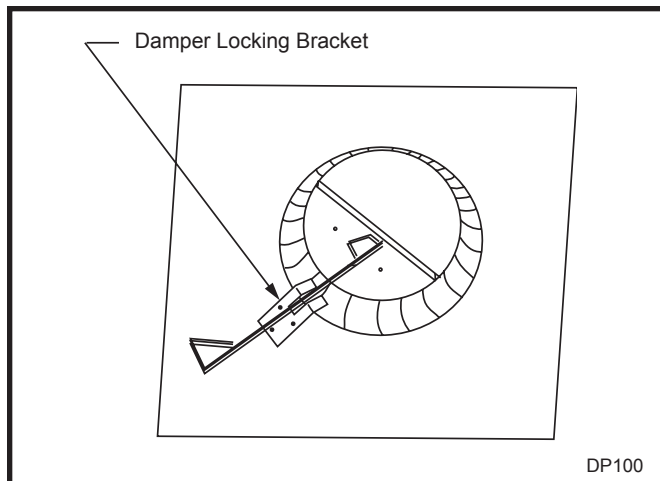

Fig. 4 Locate damper locking bracket.
The vented fireplace damper should be fully opened when operating the appliance as a vented log set. A damper stop clamp with set screw is provided as a means to prevent full closure of the fireplace damper blade. The clamp is designed to prevent accidental closure of the damper when in use. (Fig. 4) (If the damper stop cannot be installed, the installer should install a permanent damper stop that will keep the damper open a minimum of 1 1/2").
2. Locate the damper locking bracket. From inside the fireplace locate the damper locking bracket on the left side of the combustion dome. (Fig. 4)